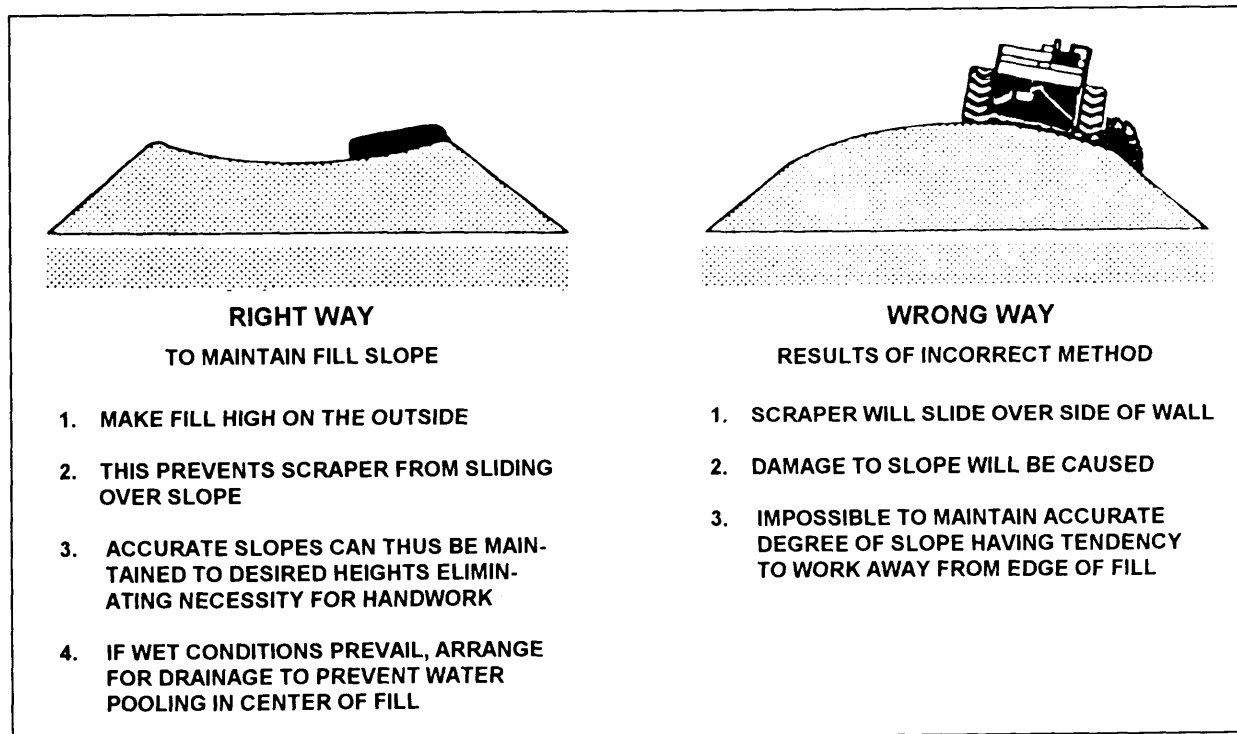

Figure 10-49.-Proper placement of fill material.
• As shown in figure 10-49, make the fill high on the outside edge. This prevents the scraper from sliding over the outside edge and helps in maintaining accurate slopes to desired heights. When the fill is not made in this manner, the scraper tends to work away from the edge of the fill, making it hard to maintain the correct slope. In inclement weather, build the low center up for drainage.